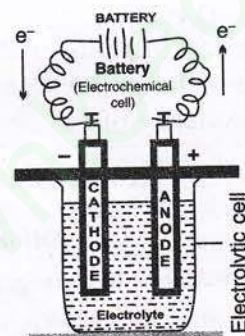

Fig. 6.1 A simple electrolytic cell or voltameter.
- (iv) **Electrolytic cell** : A non-conducting vessel in which electrolysis is carried out, is called an **electrolytic cell** or **voltameter**. It **converts electrical energy into chemical energy** (Fig. 6.1).